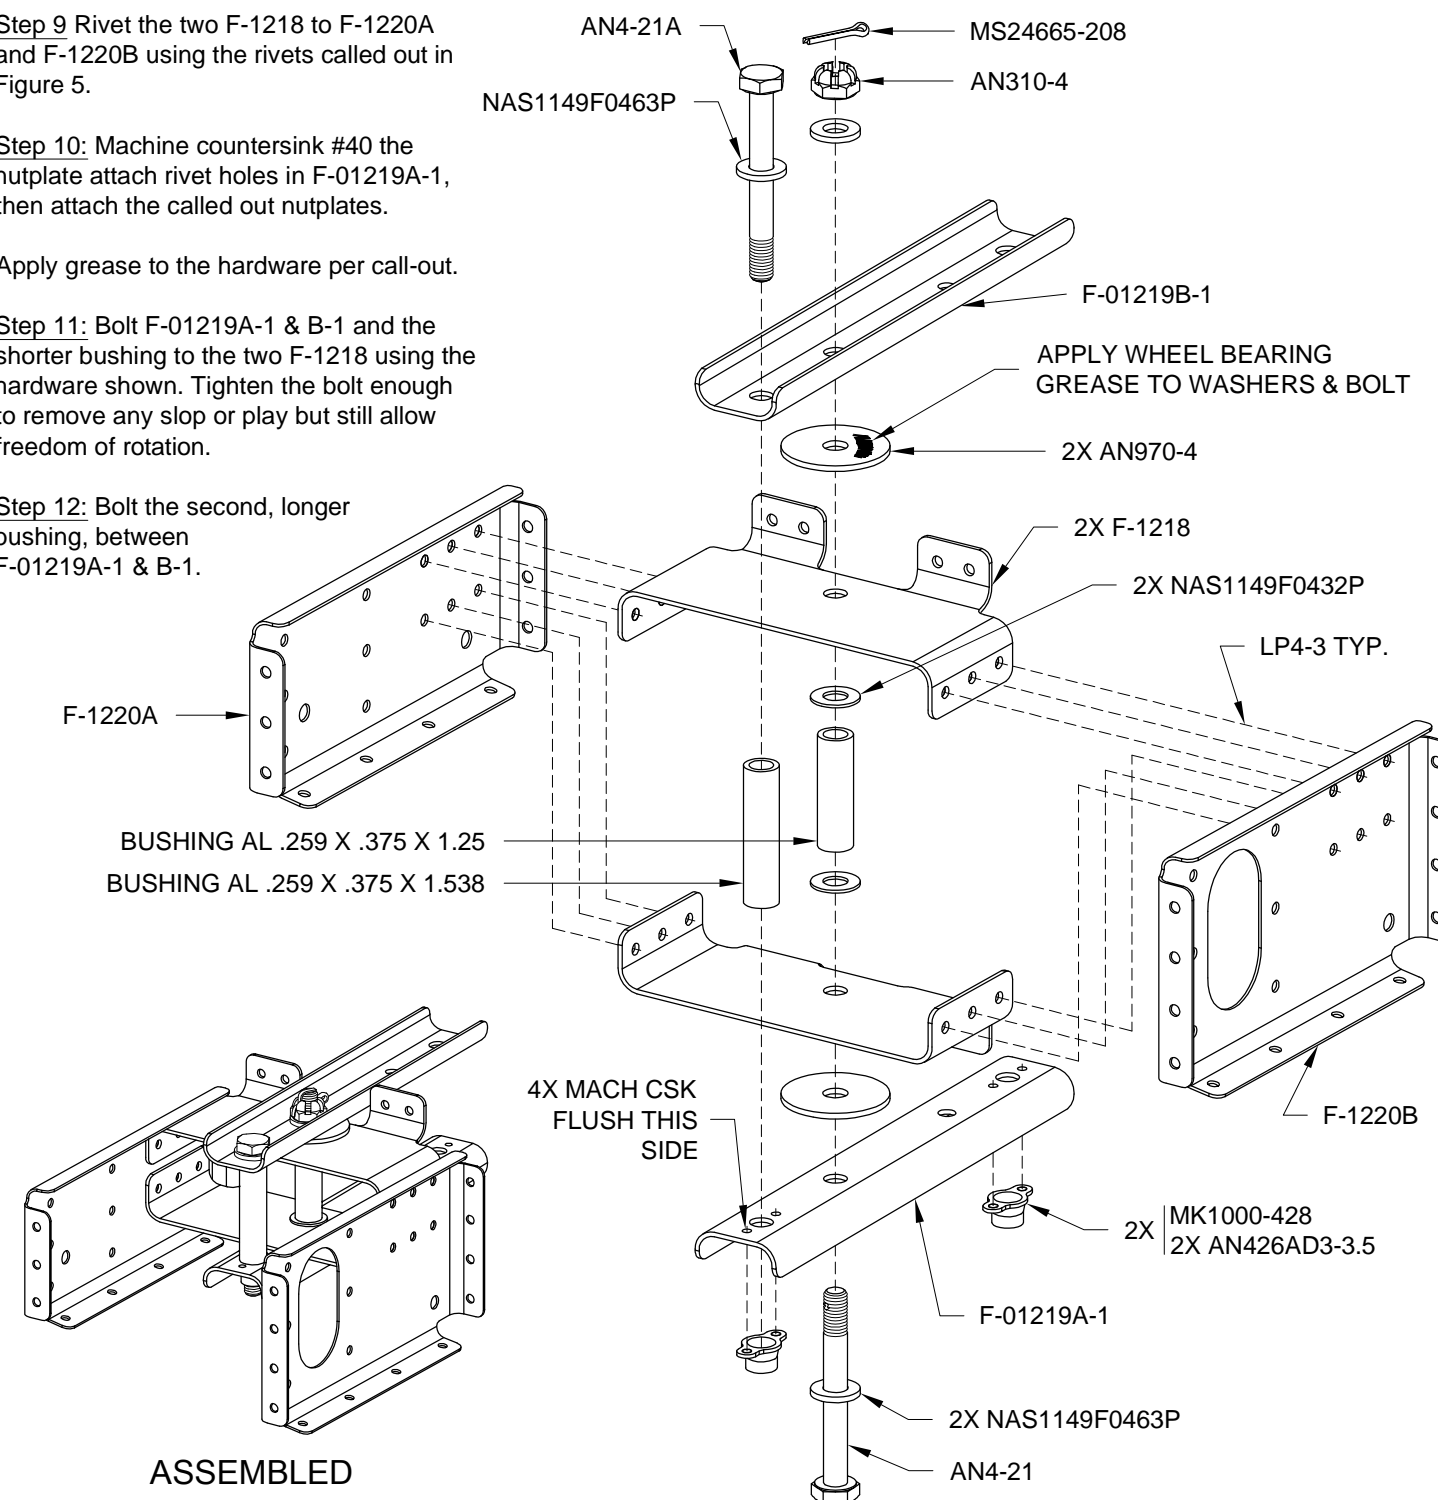

FIGURE 5: ASSEMBLING FLAPERON MIXER ARM
Step 9: Rivet the two F-1218 to F-1220A and F-1220B using the rivets called out in Figure 5.